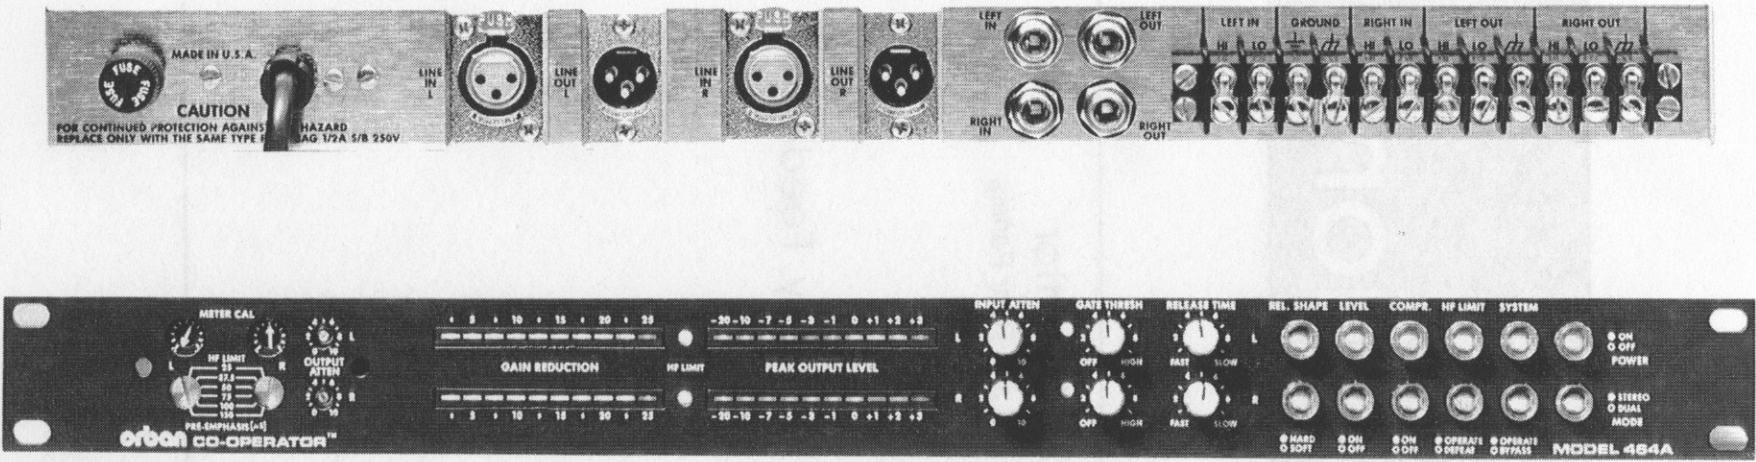

Fig. 1-1: Front and Rear Panels
- 1-2 Fig. 1-1: Front and Rear Panels